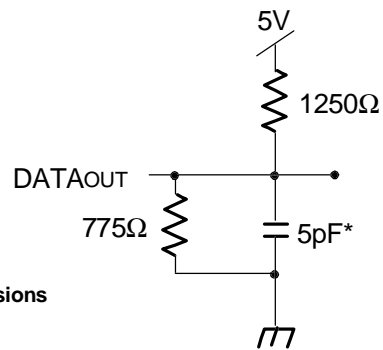

Figure 2. Output Test Load
1. Transition is measured ±500mV from Low or High-impedance voltage Output Test Load (Figure 2).
1. Transition is measured ±500mV from Low or High-impedance voltage with Output Test Load (Figure 2). This parameter is guaranteed by device characterization but is not production tested.